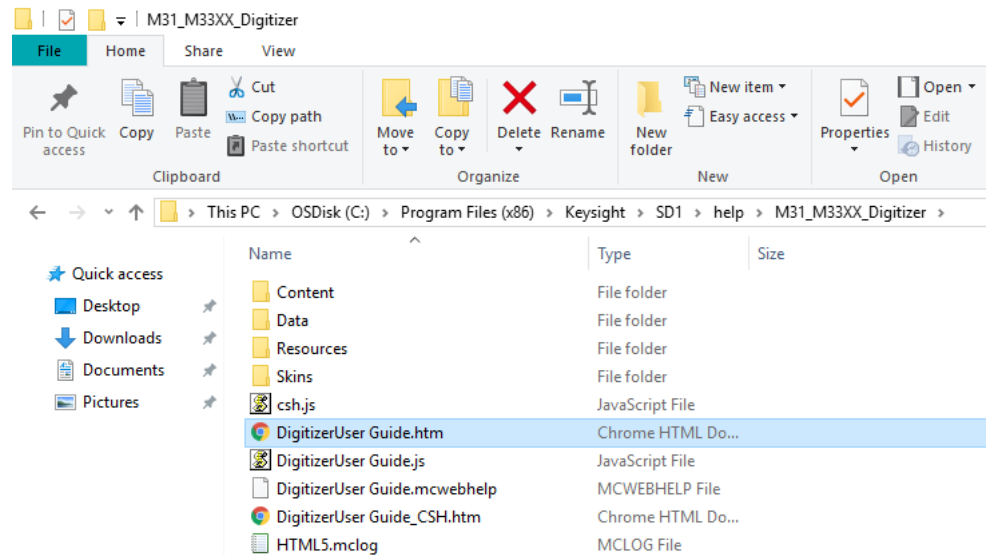

Figure 52 Accessing Digitizer Online Help on the local disk
- 2 Click the file “*DigitizerUser Guide.htm*”, which is highlighted in Figure 52.